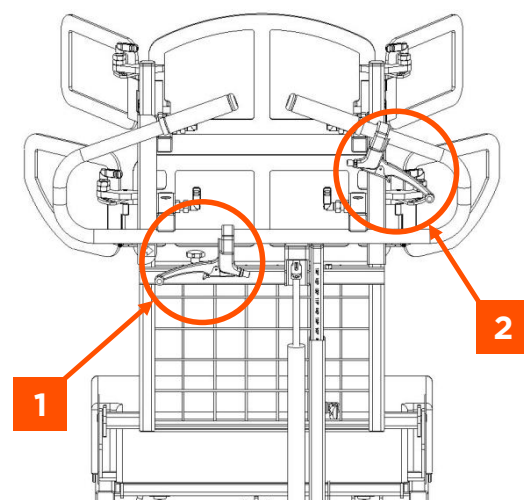
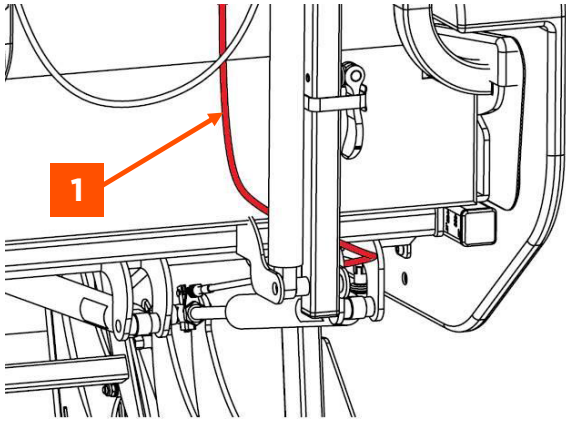

FIGURE 14
FIGURE 15
10. Refit the backrest hand lever (Fig 14, Item 1) and Tilt-in-Space hand lever (Fig 14, Item 2) in
the positions shown in Figure 14. Ensure the Tilt-in-Space operating cable (Fig 15, Item 1) is routed between the backrest and backrest actuator assembly.